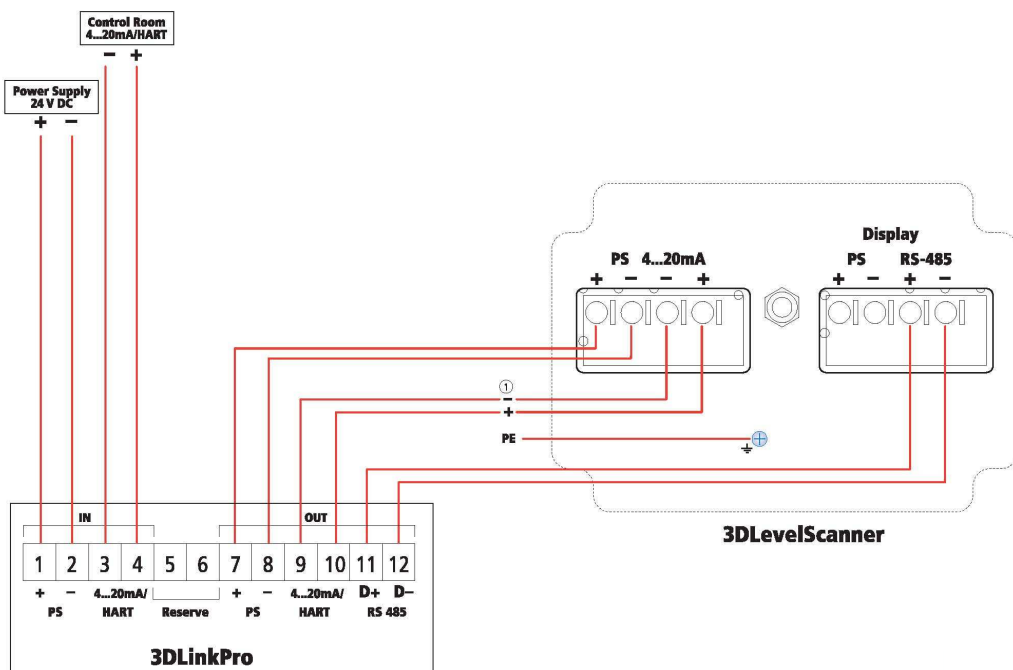

Figure 6 – Wiring Diagram
4. Connect the wires to sockets "3" and "4" according to the diagram in Figure 6.
Connect two wires to sockets "11" and "12" according to the diagram in Figure 6.
Connect two wires to sockets "7" and "8" for the power supply of the BinMaster 3DLevelScanner and two wires to sockets "9" and "10" for the 4...20mA/HART communication of the BinMaster 3DLevelScanner according to the above diagram. See Figure 6.